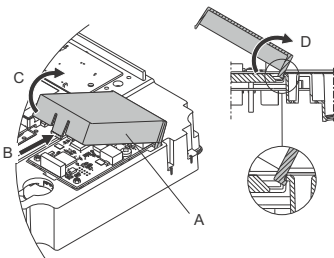

Fig. 15 Removing the CIM cover
2. Remove the CIM cover (fig. 15, A) by pressing the locking tab (fig. 15, B) and lifting the end of the cover (fig. 15, C). Then lift the cover off the hooks (fig. 15, D).